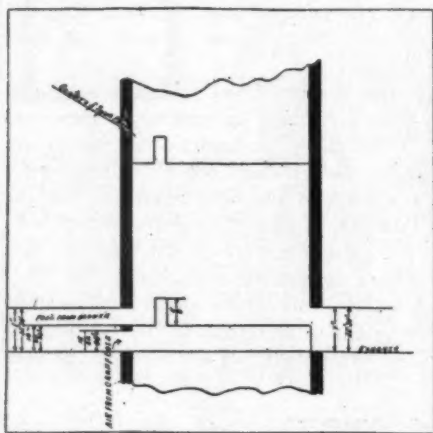

Fig. 1—Section through cylinder of proposed two-cycle motor
On this report appear the following items: (1) New repair jobs this day; the number of automobiles received from owners or chauffeurs for repair purposes; (2) finished repair jobs this day, which are the jobs specified in detail in Fig. 5; (3) unfinished jobs at close of business, that is, the number of machines still in the shop at 6 p. m., December 12 (the repair orders, Fig. 1, of these jobs are all kept on a file before the superintendent), and (4) the number of employees, which was 27, 24 being employed in the shop and 3
[2,985]—The sketch (Fig. 1) shows 4 by 6-inch, two-cycle engine; the height of exhaust is 1 inch or 52 degrees 30 minutes on crank circle; intake of pure air from crankcase 36 degrees or 15-32 inch high and when air is injected